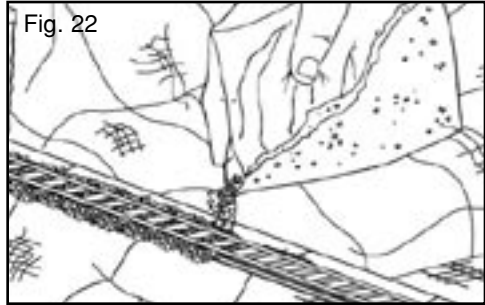

Fig. 22
D. Open the bag of Ballast and pour an even amount over the track (Fig. 22).